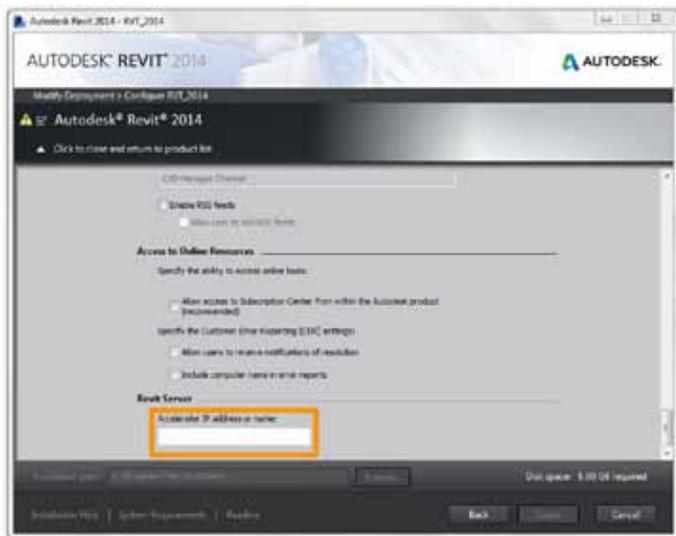

Figure 7
2. Revit server accelerator. When creating the deployment, there is a setting for Revit Server Accelerator (Figure 7). However, in Revit 2013 and 2014 this setting is ignored, and users have had to manually assign an accelerator at first launch. This setting in the deployment just sets the value of an Environment Variable when it is working, and that can be done externally from the deployment as well.